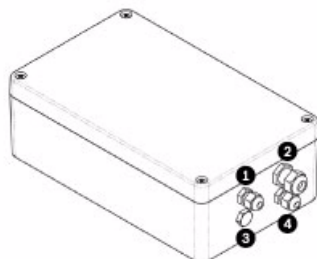

Figure 4.7 MIC PSU Enclosure, with cable glands identified
17. Feed the unconnected end of the shielded composite cable through the top-right M16 cable gland (item 2, *Figure 4.7*).
22. Make the necessary video connections. Feed the coaxial cable of your choice--see the table below to identify the recommended cable types, maximum distance, and other specifications for the coax video connection between the MIC power supply and the head-end control system--through the top-left M12 cable gland (item 1, *Figure 4.7*).
25. *For dual video output only:* If needed, remove the blanking plug that covers the hole for the bottom-left M12 cable gland (item 3, *Figure 4.7*). Feed a second Video Out cable through the cable gland, and then connect the switched Video Out cable to BNC socket CN3. This second cable provides control for video from both the optical camera and the thermal camera; users can switch between the two cameras.
26. Feed telemetry cable through the bottom-right M12 cable gland (item 4, *Figure 4.7*).
28. If connecting to additional add-on cards (for example, a card for 8-input alarms (MIC-516ALM) or for 8-input alarms plus washer pump drive (MIC-ALM), and/or a Biphase card (MIC-BP4)), remove the second blanking plug that covers one of the holes for an M12 cable gland (item 3, *Figure 4.7*). Attach the supplied M12 gland. Make the appropriate connections to plug-in terminal CN2.